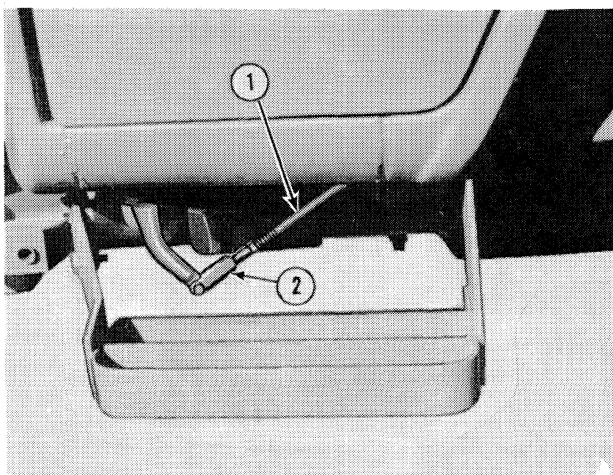

Figure 9
Clutch Pedal: See SE 3501 for operation. Adjust the clutch free pedal by adjusting the clevis (2), Figure 9.